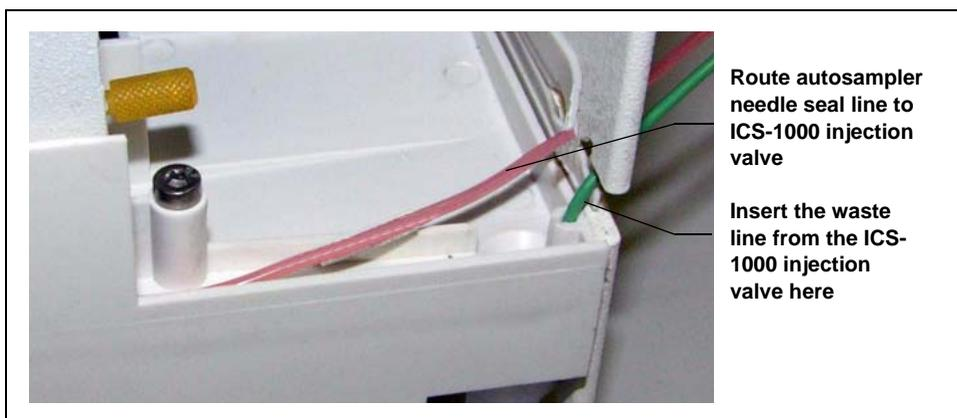

Figure 38. Autosampler Drip Tray
3. The needle seal line that extends from the inject port in the autosampler is coiled inside the autosampler door, on the right side. Route this line through the autosampler right side slot (see Figure 38) and the ICS-1000 left side slot to the ICS-1000 injection valve.
6. Push the end of the green **AS/AS50 TRAY** line into the small round opening on the right side of the AS or AS50 (USB) tray (see Figure 38).